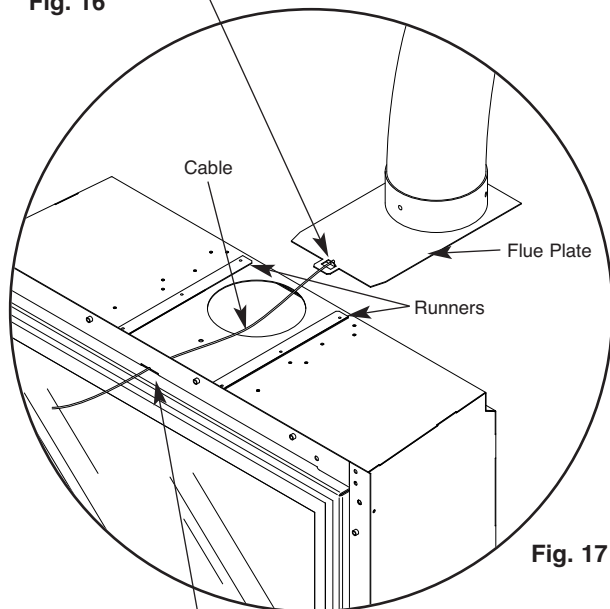

Fig. 17
3. Insert the end of the flexible flue liner into the flue plate ensuring that the cable is at the front and secure with the three self tapping screws provided, then seal around the joint using a proprietary fire cement or mastic (Fig. 17).
6. Locate the front of the flue plate into the runners on top of the fire box (Fig. 17).
7. When the flue plate is located in the runners carefully pull the cable from the front of the fire and slide the fire box into the opening at the same time. The flue plate will slide through the runners and locate the flue over the opening in the fire box (Fig. 17).
1. Construct a false chimney breast using a suitable non-combustible steel frame construction kit (Fig. 17).
2. Ensure that there are two vertical steel battens placed to allow the flange of the fire box to be screwed to them (Fig. 17).
3. Fix a horizontal batten at the desired height for the fire box to sit on. Fix the second horizontal batten high enough so that the firebox can slide into the opening (Fig. 17).